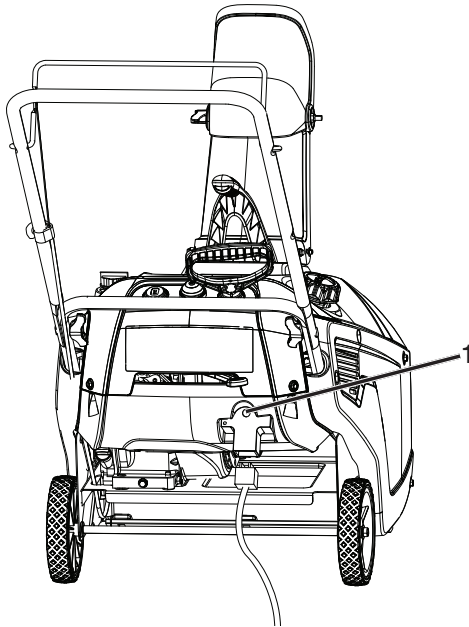

Figure 13
4. Pull the recoil starter (Figure 12) or if your snow thrower is equipped with an electric starter, connect an extension cord to the snow thrower and plug the other end into a three-hole grounded 110 volt A.C. receptacle and push the electric-start button (Figure 13).
6. Unplug the extension cord from the power source and the snowthrower (Figure 13).